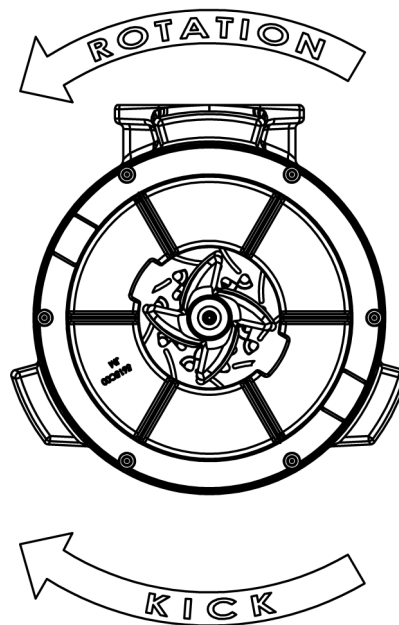

Figure 1
5. Route float wires and terminate to the corresponding terminals on the intrinsically safe (IS) barrier.
8. Verify that the rotation of the pump is in the correct direction as shown in figure 1. If correct, proceed to step 9.
11. Route float wires and terminate to the corresponding terminals on the intrinsically safe (IS) barrier.
14. Verify that the rotation of the pump is in the correct direction as shown in figure 1. If correct, proceed to step 9.